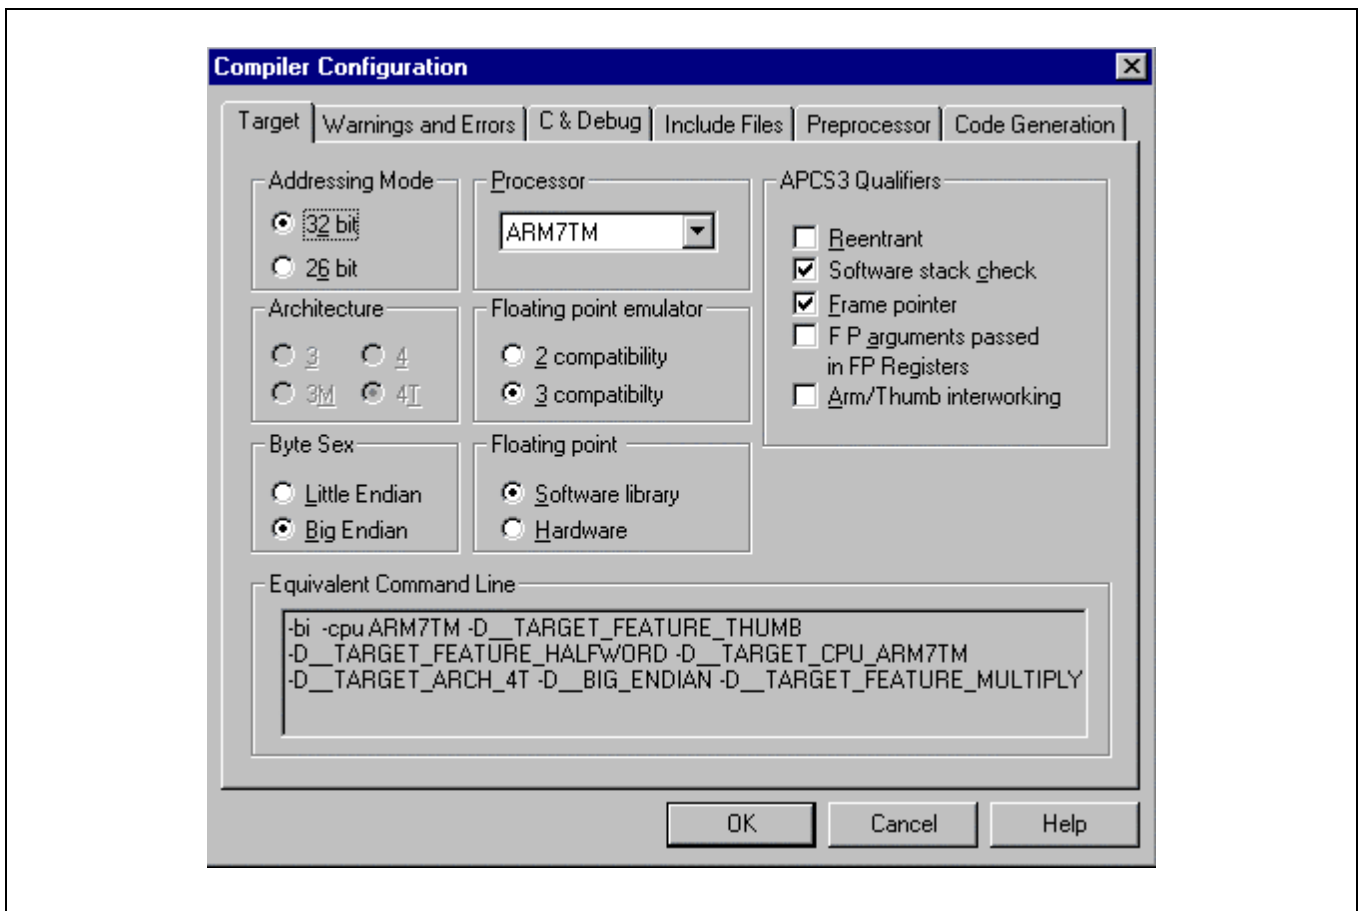

Figure 2-9. Compiler Configuration: Target Page
3. Modify Target page on Compiler Configuration dialog box as shown in Figure 2-9.